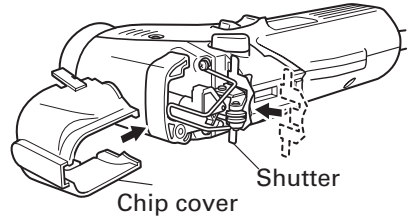

Fig. 19
- (3) Attach the chip cover with the shutter put between the chip cover and gear cover. (Fig. 19)